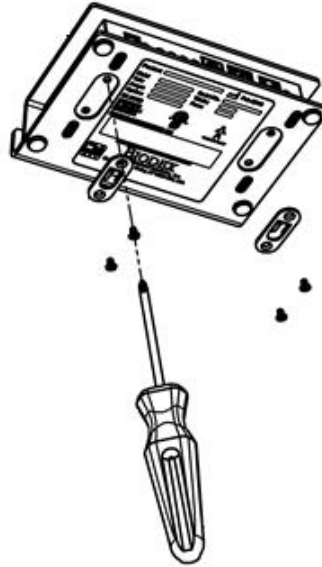

Figure 2.5. Removing Screws and Mounting Clips from Interface Module.
- Using a Phillips head screwdriver, remove the four 6-32 SST screws and the mounting clips from the bottom of the Atomlab 500 Interface Module and discard them (see Figure 2.5).